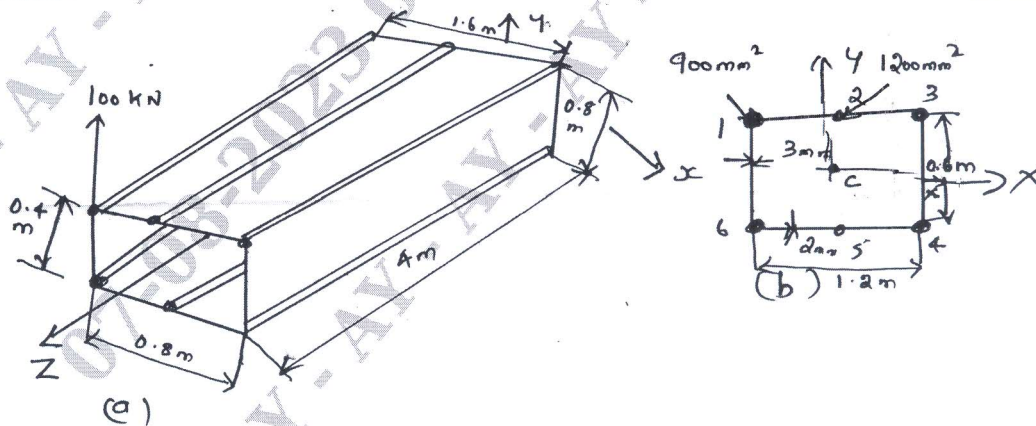

Fig.Q8
- 8 The cantilever beam shown in Fig.Q8 is uniformly tapered along its length in both x and y directions and carries a load of 100 kN at its free end. Calculate the forces in the booms and shear flow distribution in the walls at a section 2 m from the built in end if the booms resist all the direct stresses while the walls are effective only in shear. Each corner boom has a cross sectional area of  $900 \text{ mm}^2$  while both central booms have cross sectional areas of  $1,200 \text{ mm}^2$ . (16 Marks)